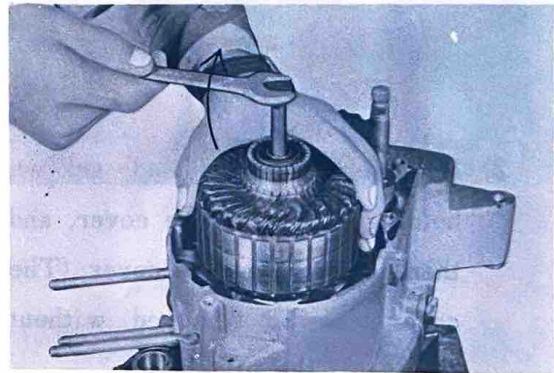

Fig. IV-7-7
- C. Pull out the armature with the armature puller bolt or slide hammer. (Fig. IV-7-7).